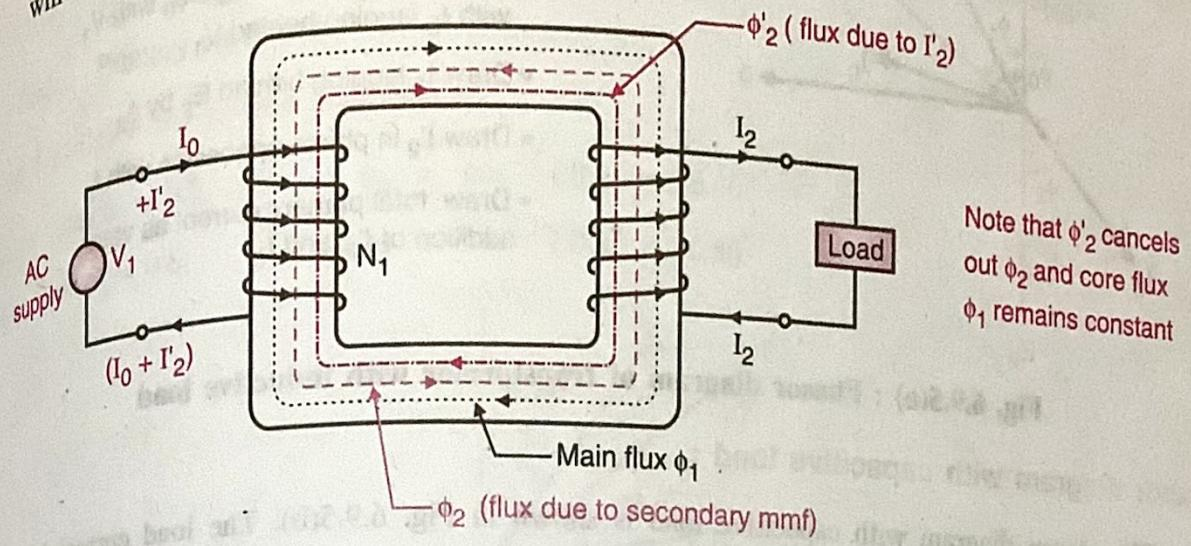

Fig. 6.9.4 : Effect of load component  $I'_2$
- This current ( $I'_2$ ) is  $180^\circ$  out of phase with the load current  $I_2$ . The current  $I'_2$  develops its own magnetic flux  $\phi'_2$  as shown in Fig. 6.9.4.
- $\phi'_2$  is in the opposite direction to that of  $\phi_2$  as shown in Fig. 6.9.4. Hence it helps the main flux  $\phi_1$  as  $\phi_1$  and  $\phi'_2$  are in the same direction.
- This current ( $I'_2$ ) flows in addition with  $I_0$  through the primary winding as shown in Fig. 6.9.4.